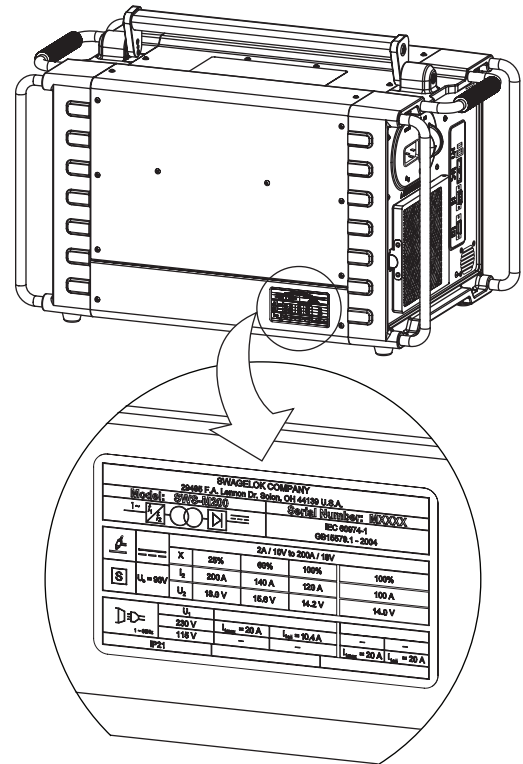

Fig. 5—M200 Power Supply Rating Label
3. Record the model number and serial number from the rating label on the back of the M200 power supply (Fig. 5), along with the delivery date, on the M200 Power Supply Warranty Information form and the Registration Information form, page 17. Return the Warranty Information form to your authorized Swagelok representative to activate the warranty.
Please take a moment to fill out the information listed below. See the rating label on the back of the M200 power supply (Fig. 5) for the model and serial numbers.